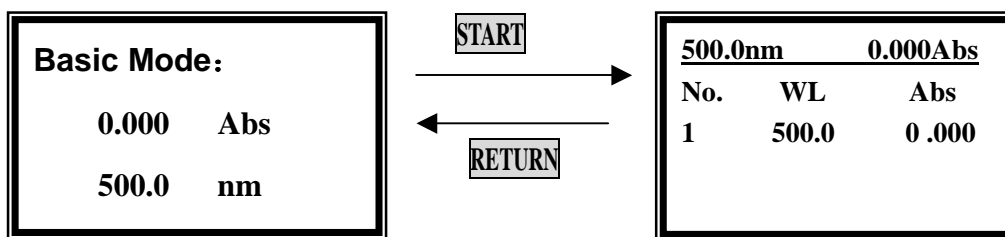

Fig. 5
- ✧ Press **【ENTER】** to change the wavelength, and then blank; After blanking, the screen displays as the left one of Fig 5.
- ✧ Press **【START/STOP】** in the left one of Fig. 5 to go into testing interface.(The right one of Fig 5)
- ✧ Press **【START/STOP】** again in the right one of Fig. 5, the testing result displays on the screen, repeat this step, the results will display on the screen one by one.
Print test report (For example: Print the report in “Basic mode”, the right one of Fig. 5)
- ✧ Press **【PRINT】** in the right one of Fig.5 to print the report (Fig. 6)